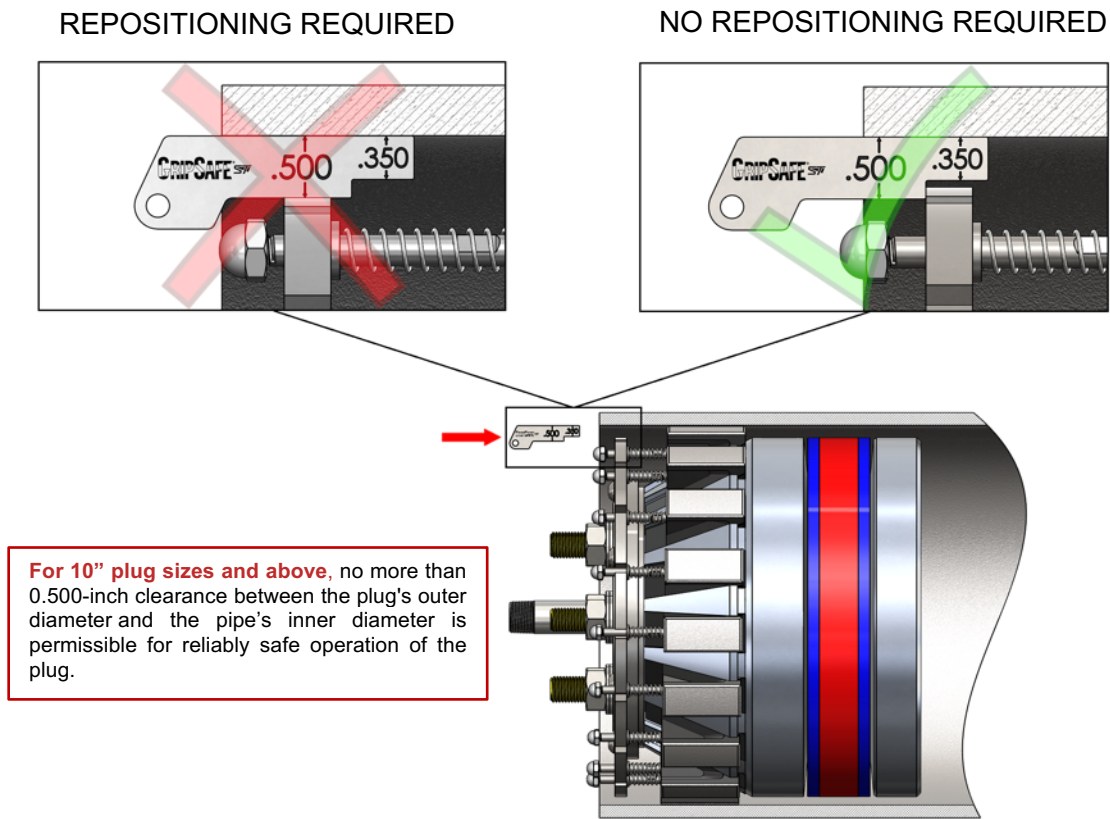

Figure 7: Sizes 10" and above GripSafe ST Plug and Pipe Concentricity
- For NPS 10" plugs and above, use the .500" portion of the GripSafe Concentricity Gauge. If the .500" portion of the No-Go Gauge goes in between the plug's outer diameter and the pipe's inner diameter, repositioning the plug is required, see Figure 7 "REPOSITIONING REQUIRED". If the .500" portion of the No-Go Gauge does not go in between the plug's outer diameter and the pipe's inner diameter as shown in Figure 7 "NO REPOSITIONING REQUIRED" proceed to the next step. To help with plug's concentricity, see **Note 6.7**.